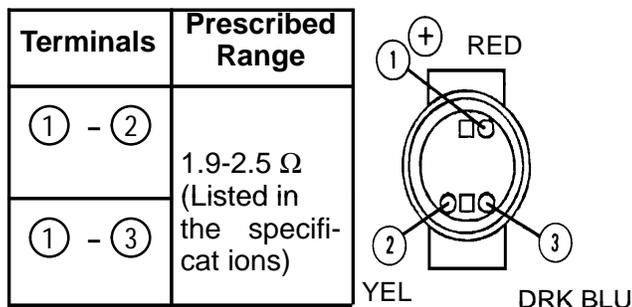

Figure 3.
Disconnect the coil from amplifier and measure resistance between coil connector terminals (Figure 3).
1. Measure resistance between coil connector terminal #1 (Figure 3) and engine ground. Minimum resistance of 10 megohms.